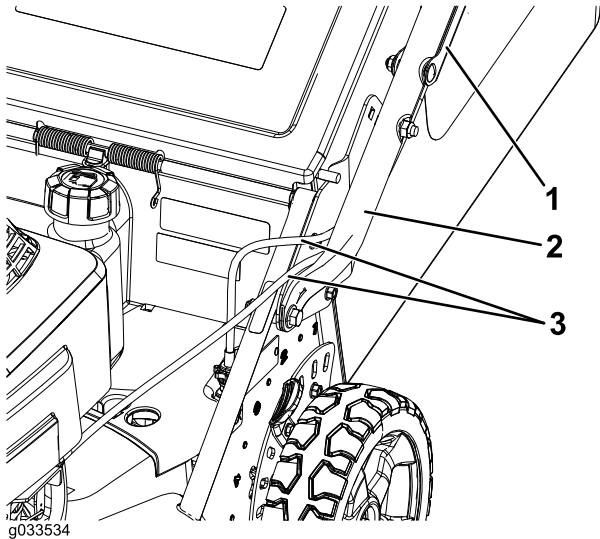

Figure 4
- Route the control cables between the deck and the handle to protect the cables from being damaged (Figure 4).